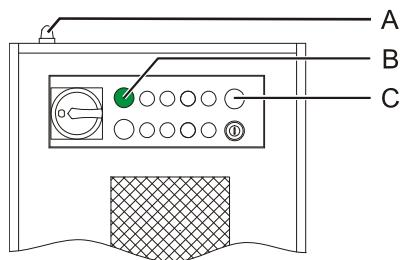

Figure 5: Warning lights
- White laser radiation warning light (see Figure 5, A) illuminates when laser radiation is being emitted or can be emitted. The light will, consequently, continue to light for five seconds after emission has stopped.
- Green mains voltage warning light (B) illuminates when mains voltage is applied to the laser device.
- White control voltage warning light (C) illuminates when the control voltage (24 V) is switched on.